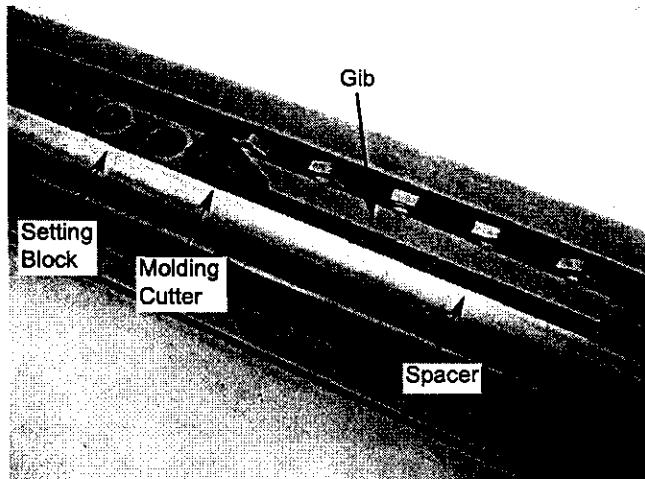

Figure 23 - Molding Cutter Installed
- Slide molding cutter against edge of setting block, place gib in slot, then place spacer at opposite end of gib, and secure in position using the gib screws. Tighten gib screws equally to produce equal pressure on the cutter and spacer (see Figure 23).